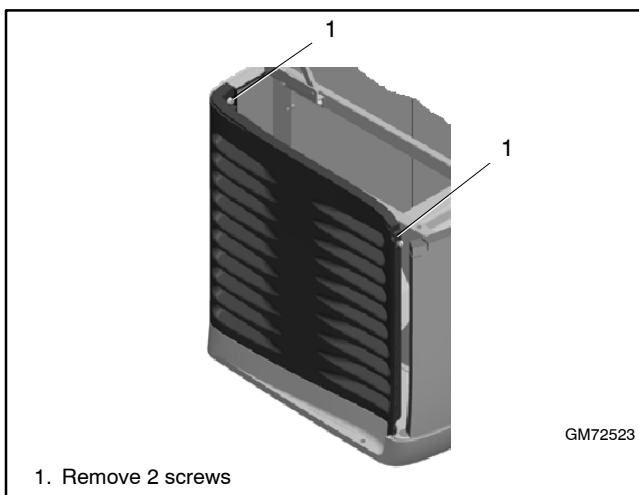

Figure 7-6 Rear Panel (exhaust end panel)
- Remove two nuts and lift off the exhaust end panel. See Figure 7-6.